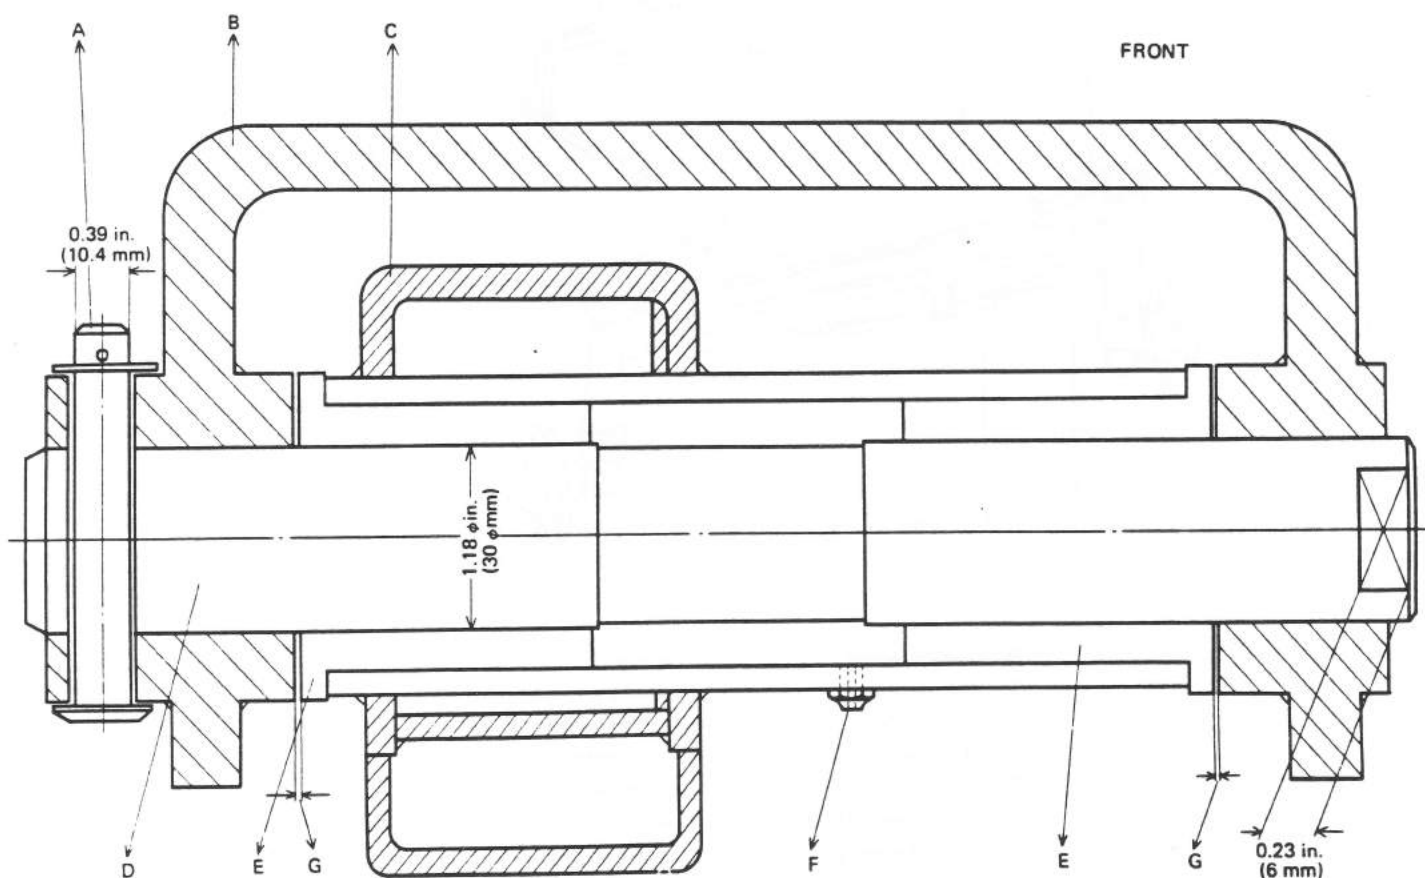
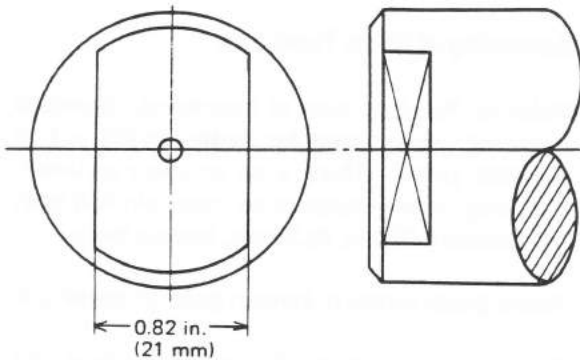

Fig. 3 Center Pin
Fig. 4 Center Pin
4. Draw downward to pull cotter pin (A) out, as shown in Diagram Fig. 3. Place garage jack in the middle beneath center beam and jack up so top of jack touches the front axle lightly.
- At the forward section of the center pin, there is a groove where an special tool (BT-9 OPEN END WRENCH SET 19 x 21) can be inserted, as shown in Diagram Fig. 4. By manipulating the wrench, right to left, unloosen center pin by pulling forward.
Refer to Fig. 3 at time of assembling. Standard diametric measurement for center pin (D) is 1.18 ϕ in. (30 ϕ mm). There is no over-size or under-size; thus, when tolerance for both pin and bush (E) exceeds 0.011 in. (0.3 mm), replace them.
2. Drive center pin bush (E) into center beam (C) with special tool (2050T03, CENTER PIN BUSH DRIVER) and apply grease.
3. Raise entire center beam with jack and align chassis with section to be brought together and lightly drive in center pin from the front. Ultimately, to set the position of the center pin, place wrench on wrench catch, as shown in Fig. 4. Align pin hole so pin can be inserted, drive pin (A) from beneath, insert thrust washer, insert and secure cotter pin.
4. Verify (G) in Fig. 3, with special tool (No. 26, FEELER GAUGE), in other words, opening between chassis (B) and center pin bush (E). Should be 0.01 ~ 0.03 in. (0.4 ~ 1 mm). Apply grease through grease nipple and be sure grease exudes from space (G).